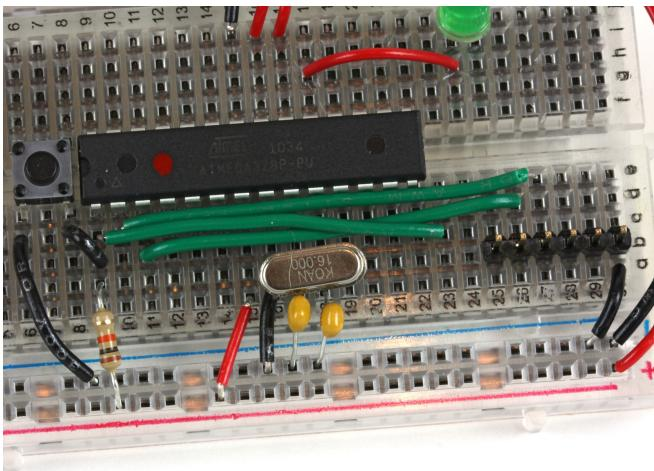

Figure 1-8. The programming header connected to the ATMega
8. The final step is to add a 1/2" piece of black wire from "a30" to the ground rail (-) of the breadboard. Figure 1-8 shows the completed connections.